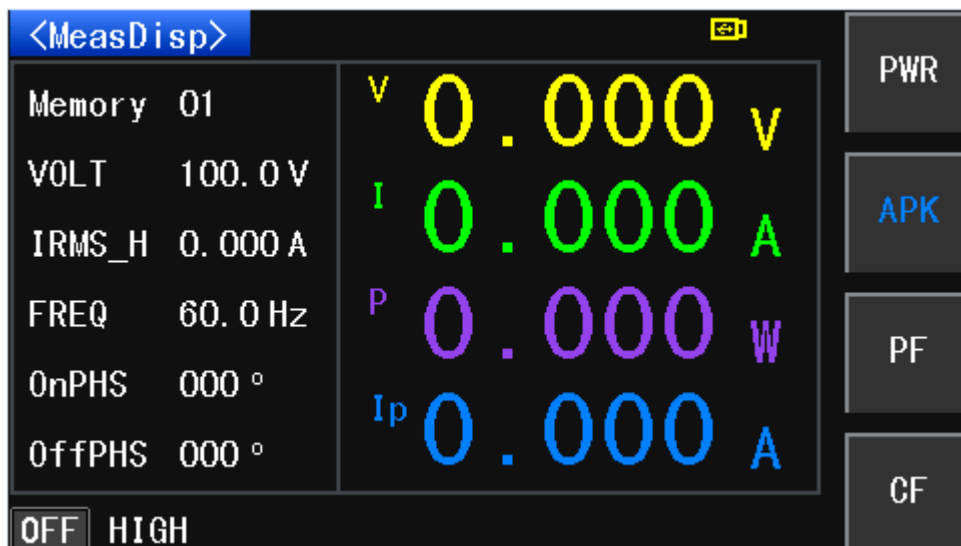

Figure 3-5 MESA4 Key
This soft-key is used to configure the parameters required for MESA4, press this soft-key to select the power (PWR)、peak current (APK)、power factor (PF)、crest factor (CF). Please refer to figure 3-5.